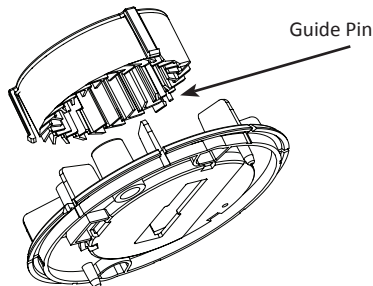

FIGURE 9: Replace Optic Cage into Optic Cage Base
7. After cleaning with clean compressed air, replace the optic cage by lining up the three connector arms and the guide pin into the optic cage ring and gently pushing until it clicks (FIGURE 9).